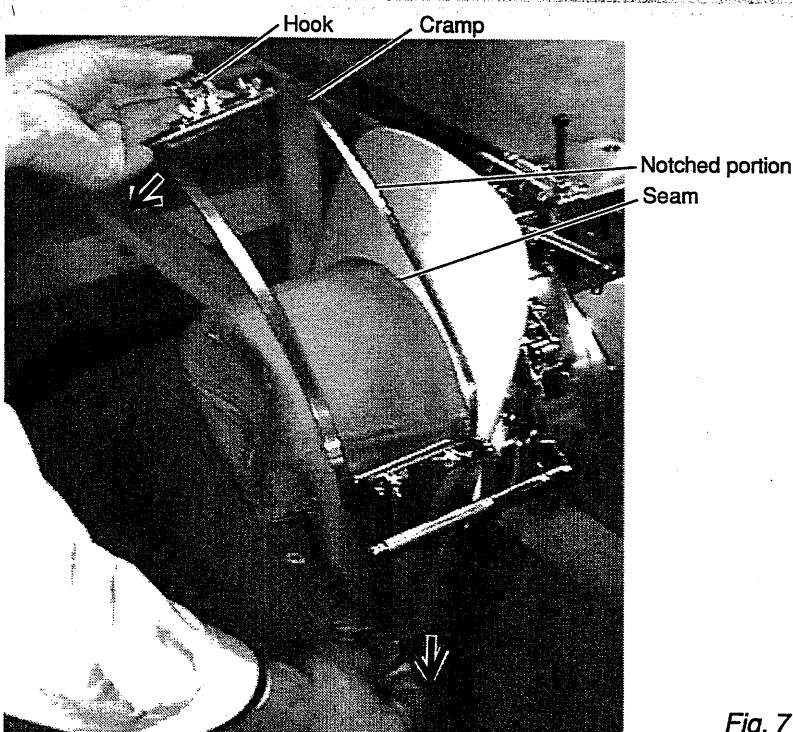

Fig. 7
- 5 As shown in Fig. 7, pull hind part of cap and get it caught on hook by smoothing out creases on cap. At this moment, set center of cap to center mark on cap hold frame so that notched portion of clamp gets into seam of visor.